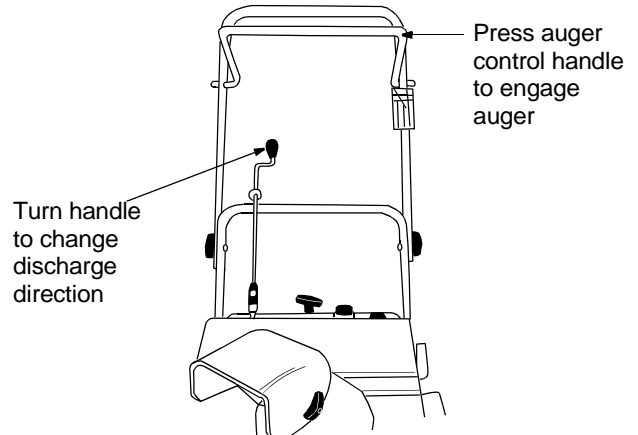

Figure 11
- After making sure no bystanders or obstacles are in front of the unit, engage the auger control handle. See Figure 11. As the snow thrower starts to move, maintain a firm hold on the handle, and guide the snow thrower along the path to be